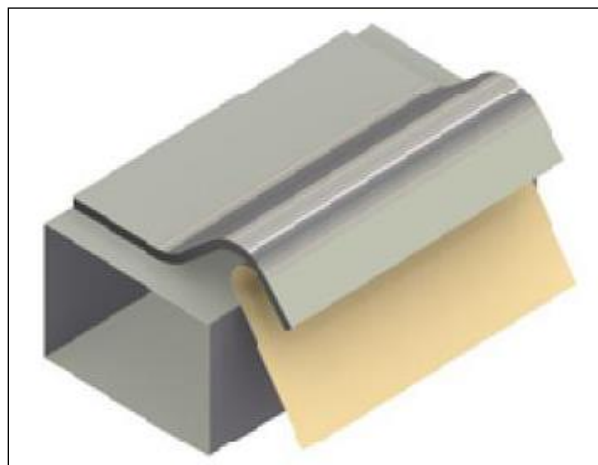

Figure 2
- 4.2.10.5. Do not try to lower entire sheet to one side of the duct at once. This will lead to trapped air pockets. (Figure 2). Thermobreak is a closed cell material and will not allow trapped air to escape.